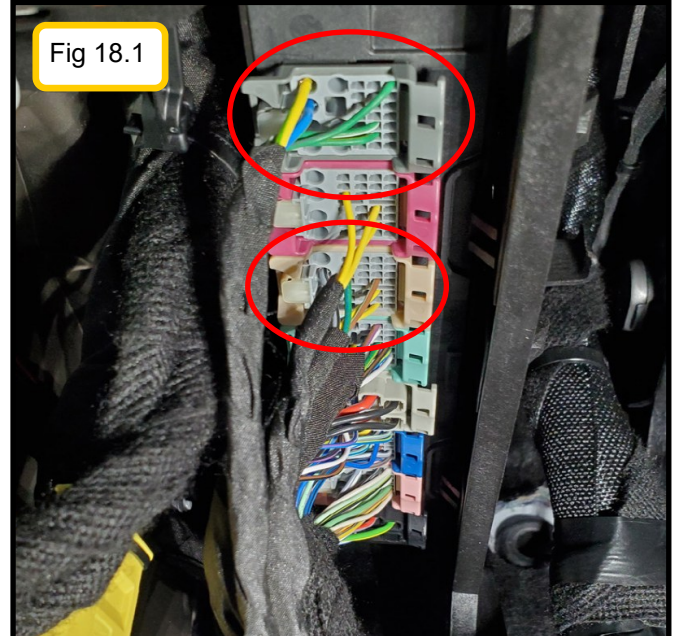

Fig 18.1
3. Disconnect connectors x8 (grey), and x6 (tan) by pulling the small tab down, and pressing the release in. (fig 18.1 & 18.2)